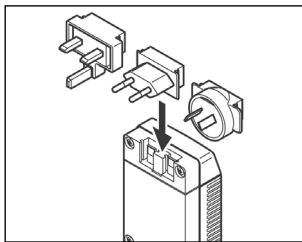

Fig. 3 SNT-121A Adapter/Charger.
3. Slide a different AC line plug adapter into the slot (see Fig. 3).